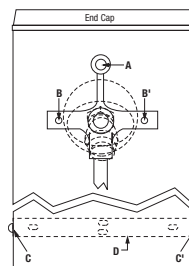

Figure 4
The piping and Hydropanel™ II shrouding come pre-assembled (Figure 4). To detach, remove the screws at the showerhead (A) and bottom bracket (C and C'). Slide the piping out of shrouding; the showerhead remains part of the shroud.
The bottom bracket (Figure 4,D) will attach to the wall 25-1/2" below showerhead height (see Figure 3). Use the bracket as a template to mark positions for two mounting holes. Drill holes and attach the bracket.
The chrome plated end cap (Figure 4) on top of the shrouding has a section marked to be broken out for vertical and horizontal piping clearance. To remove the marked piece, hit it sharply with a hammer. Do not remove the entire end cap from the shrouding.
Use screws to attach the shrouding to the piping bracket and to bottom mounting bracket (Figure 4, A and C).